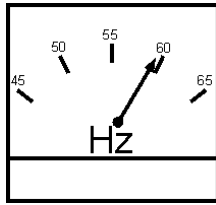

Figure 56. Frequency Meter (Hz)
13. The generator's frequency meter (Figure 56) displays the 60 cycle output frequency in **HERTZ**.